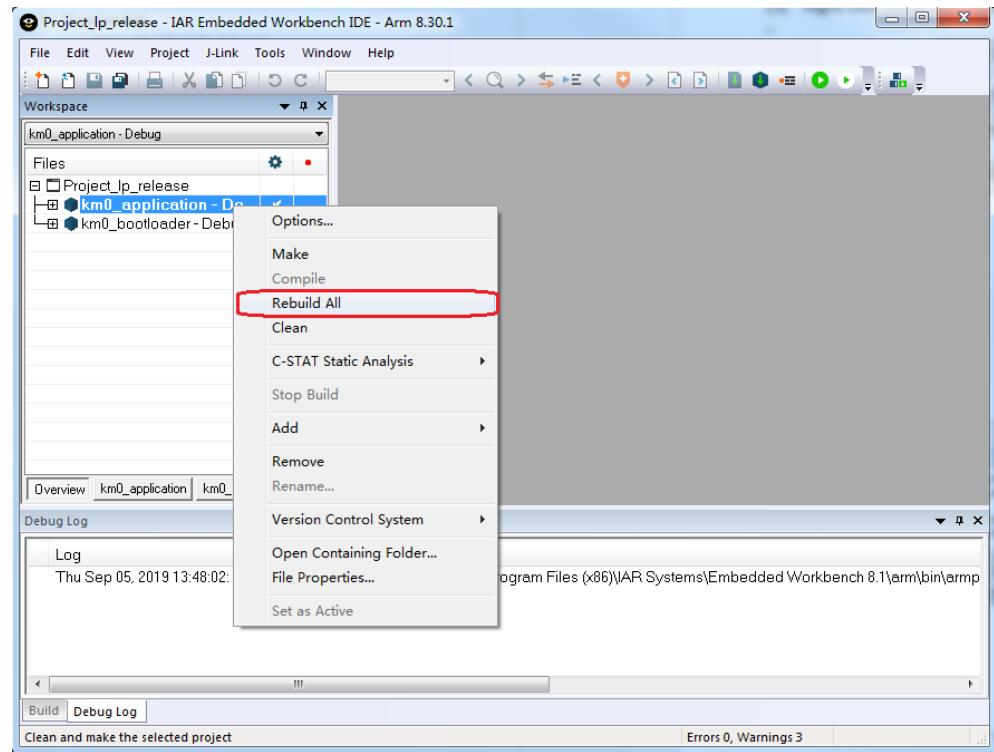

Fig 6-8 Building KM0 project
- (3) Right click the project and choose “Rebuild All”, as Fig 6-8 shows. The km0_bootloader and km0_application should compile in order.